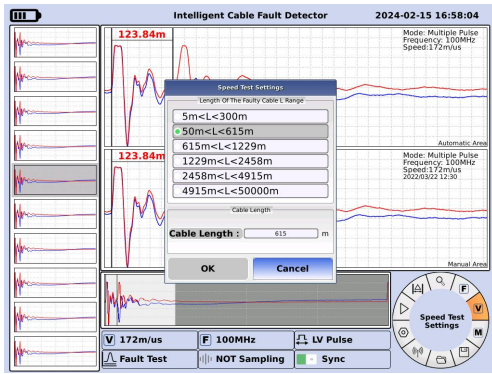

Figure 3.5 Speed Measurement Setting Interface
As shown in Figure 3.5, rotate the "Photoelectric Rotator ⑪" to switch the focus to , then press the button to enter the velocity testing interface. Press the ⑪ "Optoelectronic Rotary" to switch the focus between fault cable length L range selection (the system automatically sets an appropriate sampling frequency), "OK", and "Cancel". Alternatively, rotate the ⑪ "Optoelectronic Rotary" to move the focus to "Cable Length", press the button, and use the pop-up numeric keypad to enter the length.